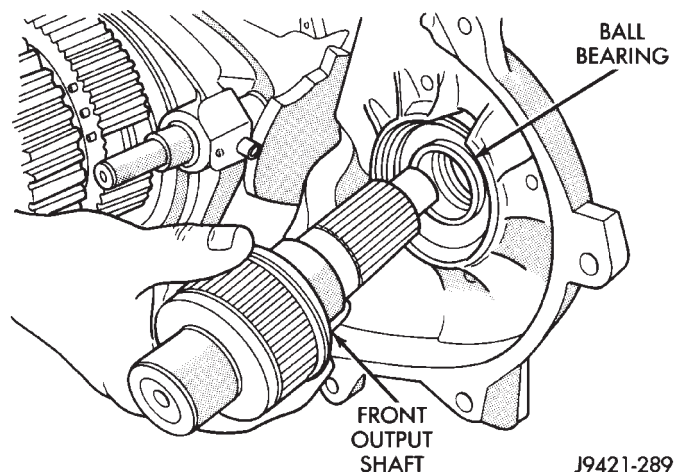

Fig. 25 Front Output Shaft Removal
(5) Remove front output shaft from bearing in case (Fig. 25).